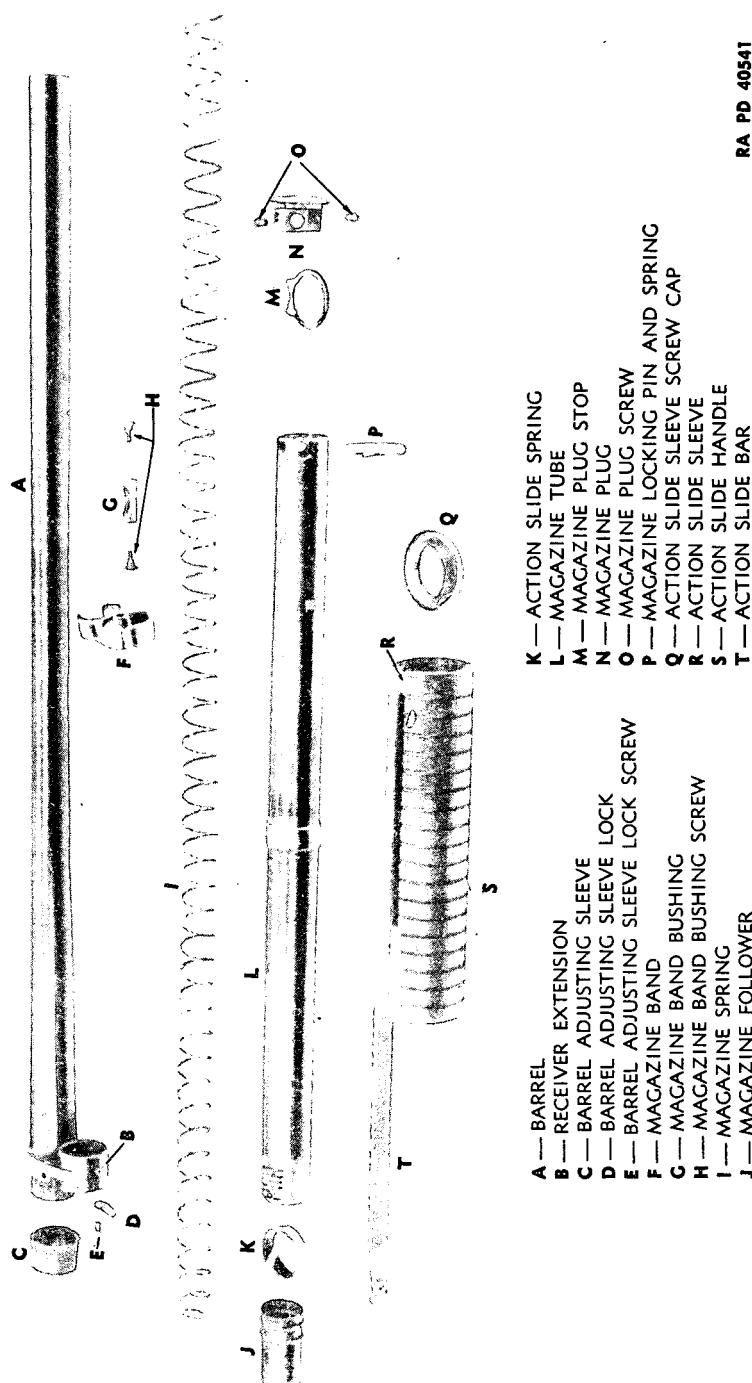
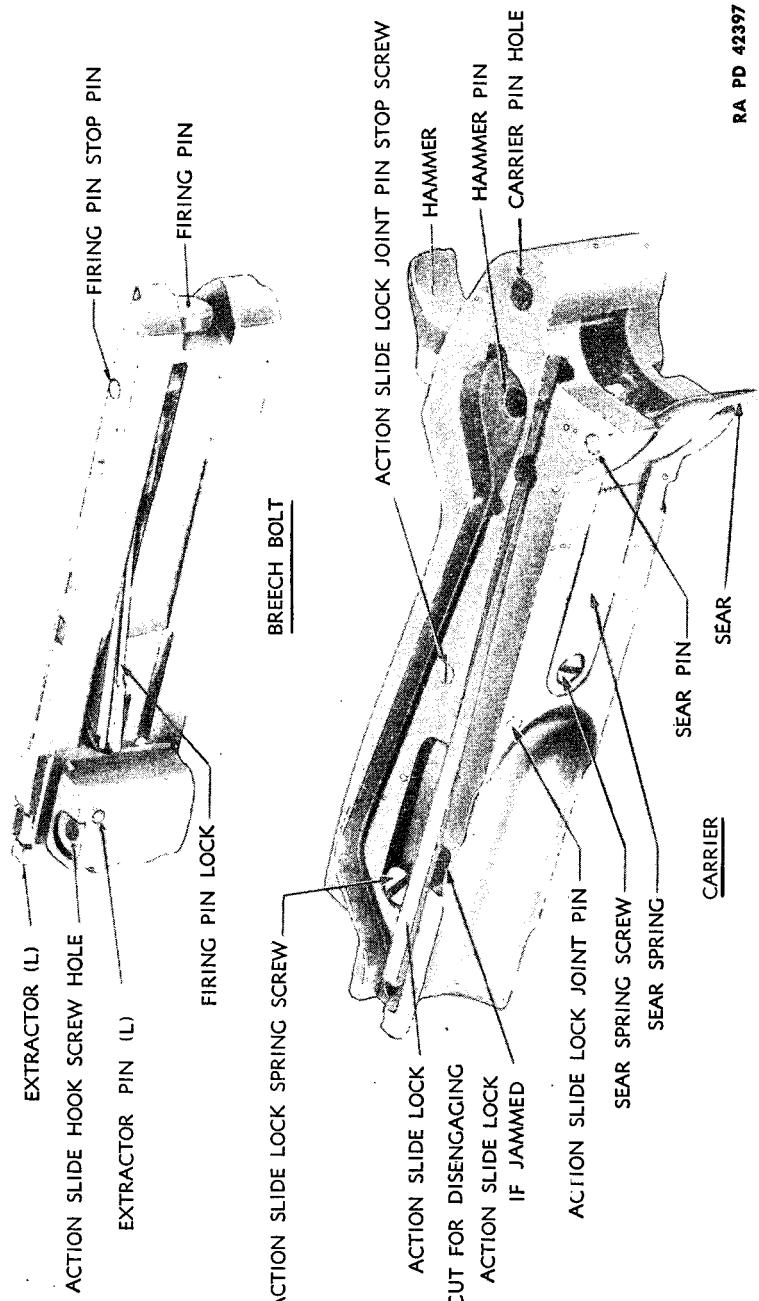

Figure 6—Barrel, Magazine and Action Slide Group—Disassembled View—
Figure 8—Breech Bolt and Carrier—Rear, Bottom and Left Side View—Showing Location of Parts—
e. **General Description** (figs. 6, 7, 8, 14, and 15).
(1) The stock of the gun is bolted to the rear end of the receiver, and the barrel and magazine are fastened to the forward end of the receiver in either of the ways explained in b and c above. The action slide is mounted and operates on the magazine. The rear end of the slide or bar passes through the forward end of the receiver and engages with and cam-operates the carrier, pivoted in the receiver, and at the same time reciprocates the breech bolt through the medium of a hook pivoted on the bolt.
(2) The receiver contains the operating mechanism and to its lower rear end is attached the trigger plate in which the trigger is mounted. The receiver is open at the bottom to permit loading, the rear to permit rearward passage of the breech bolt, and the right side for ejection of the fired shell cases.
(3) The breech bolt (fig. 8) contains the firing pin, firing pin lock and the extractors. The carrier (fig. 8) contains the hammer, sear, and action slide lock, together with their springs and components. The trigger plate contains the trigger, trigger spring, and stop screw. The ejector is mounted to the left wall of the receiver and the action slide lock release plunger pin in the right wall of the receiver.
8. REMOVAL OF GROUPS (figs. 6, 7, 14, and 15).